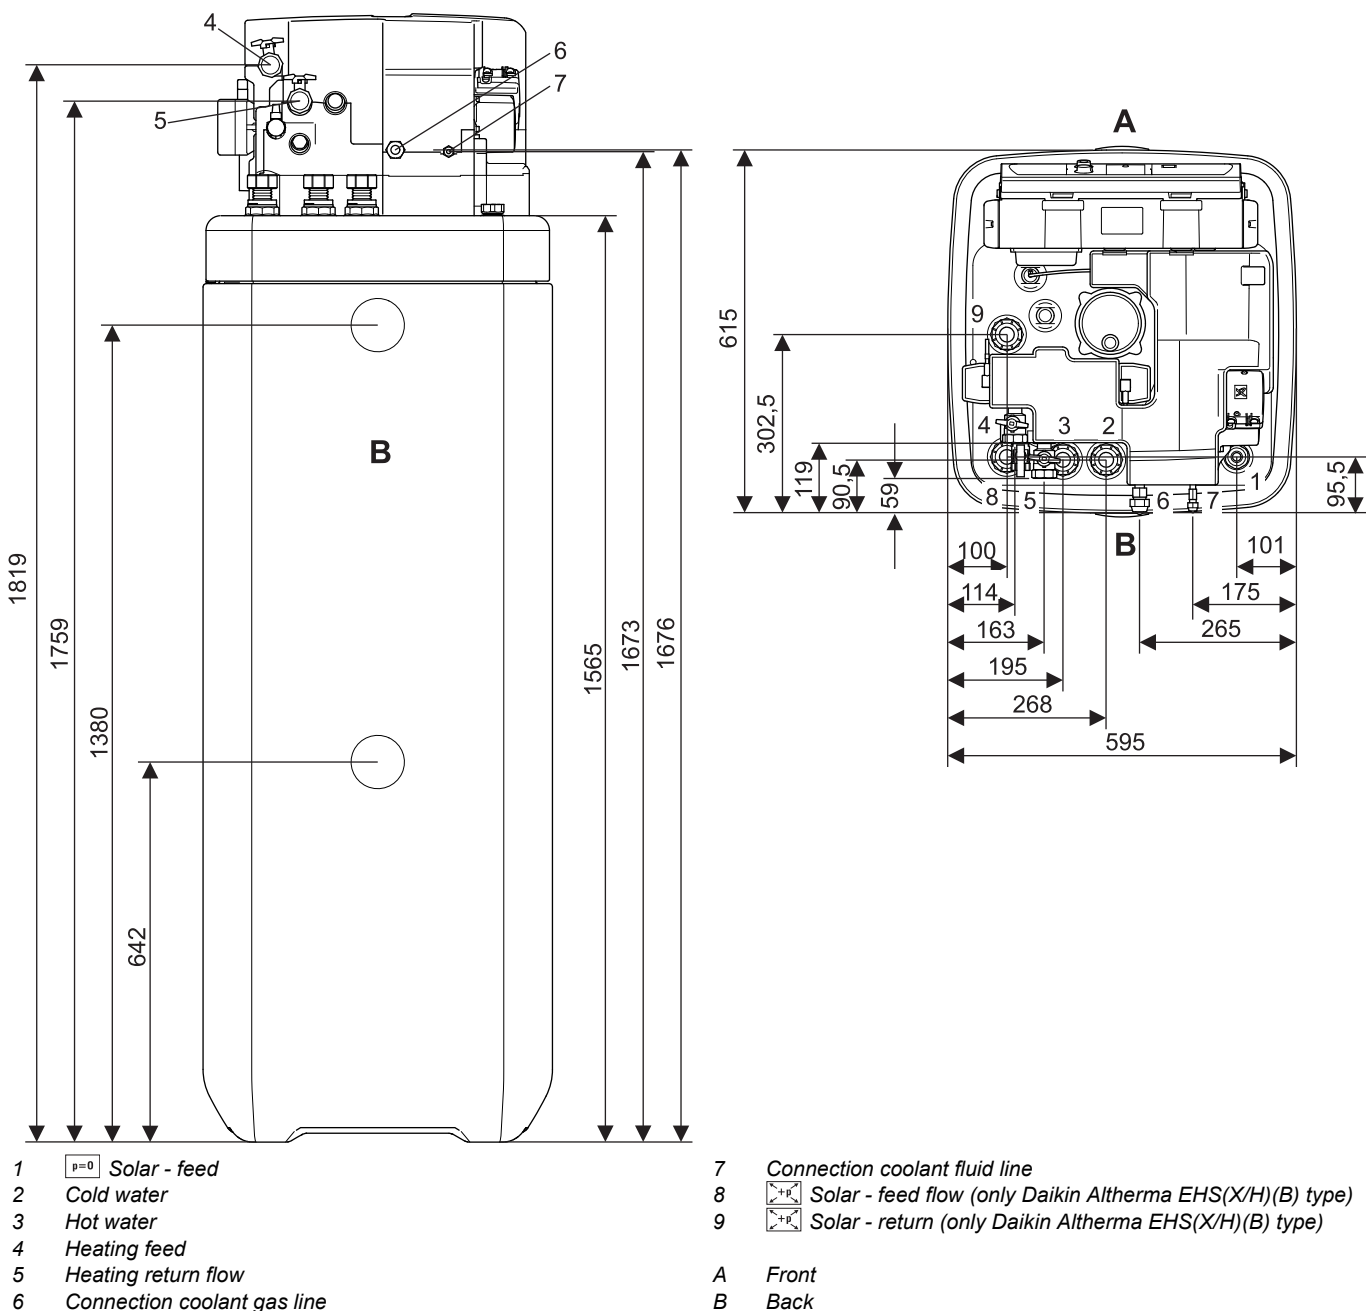

Fig. 3-1 Connections and dimensions Daikin Altherma EHS(X/H)...P30A (general)
If the **heat exchanger** for charging the **pressurised solar** system (figure 3-1/figure 3-2, item 8+9) has an **external heating unit** (e.g. wood-burning boiler) connected to it, an excessive flow temperature at these connections can damage or destroy the Daikin Altherma EHS(X/H)B.
- Position of the heating connections figure 3-1 / figure 3-2, Dimensions to be taken from tab. 2 -1.